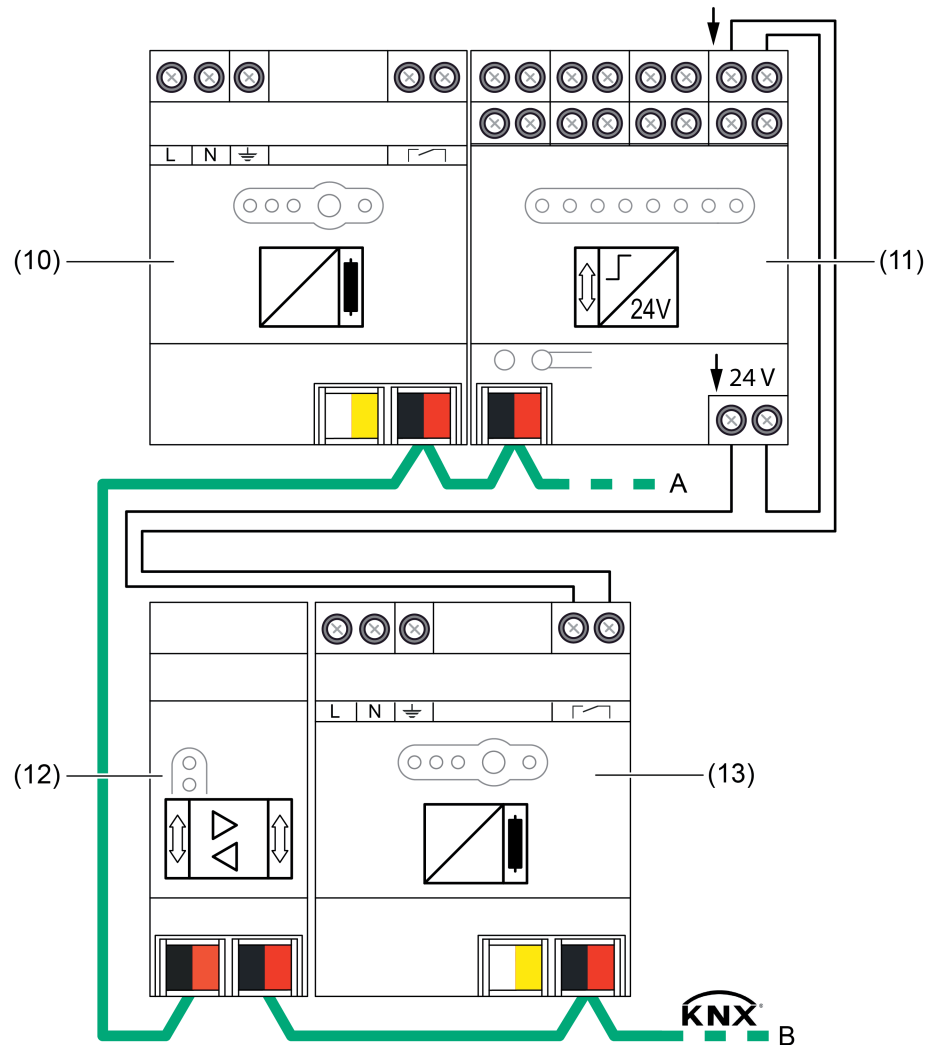

Figure 4: Connection example for KNX binary input
- Connect the KNX binary input according to the connection example (Figure 4)Connecting .